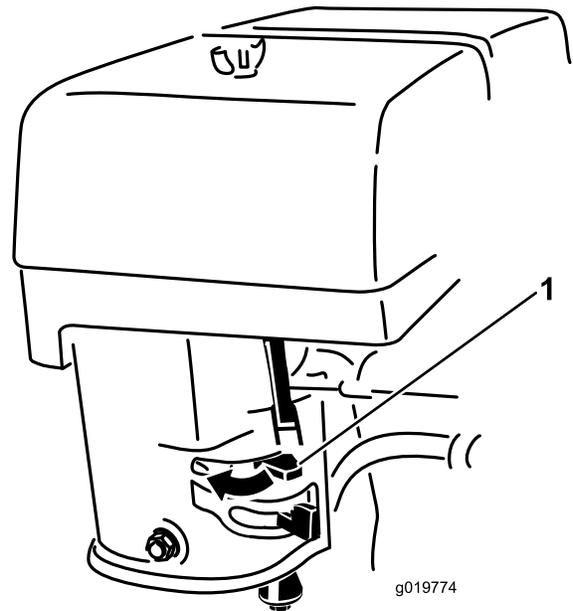

Figure 12
3. Move the choke lever to the left if you are starting a cold engine (Figure 12).